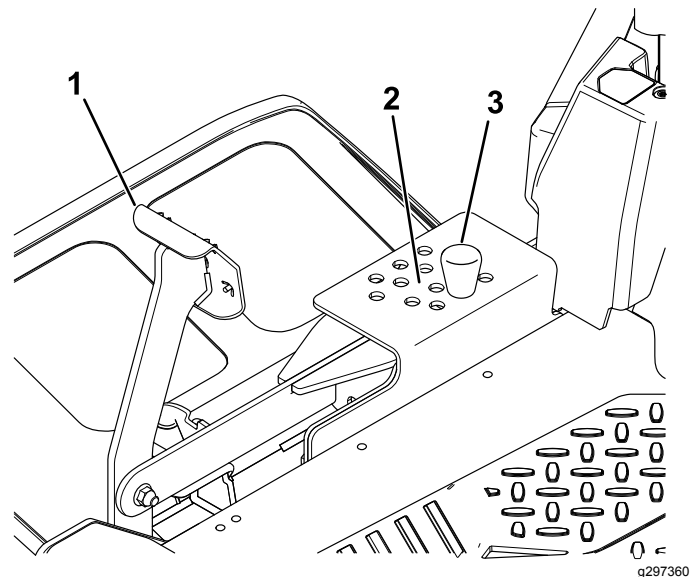

Figure 25
2. To adjust, remove the pin from the height-of-cut bracket (Figure 25).
3. Select a hole in the height-of-cut system corresponding to the desired height of cut and insert the pin (Figure 25).